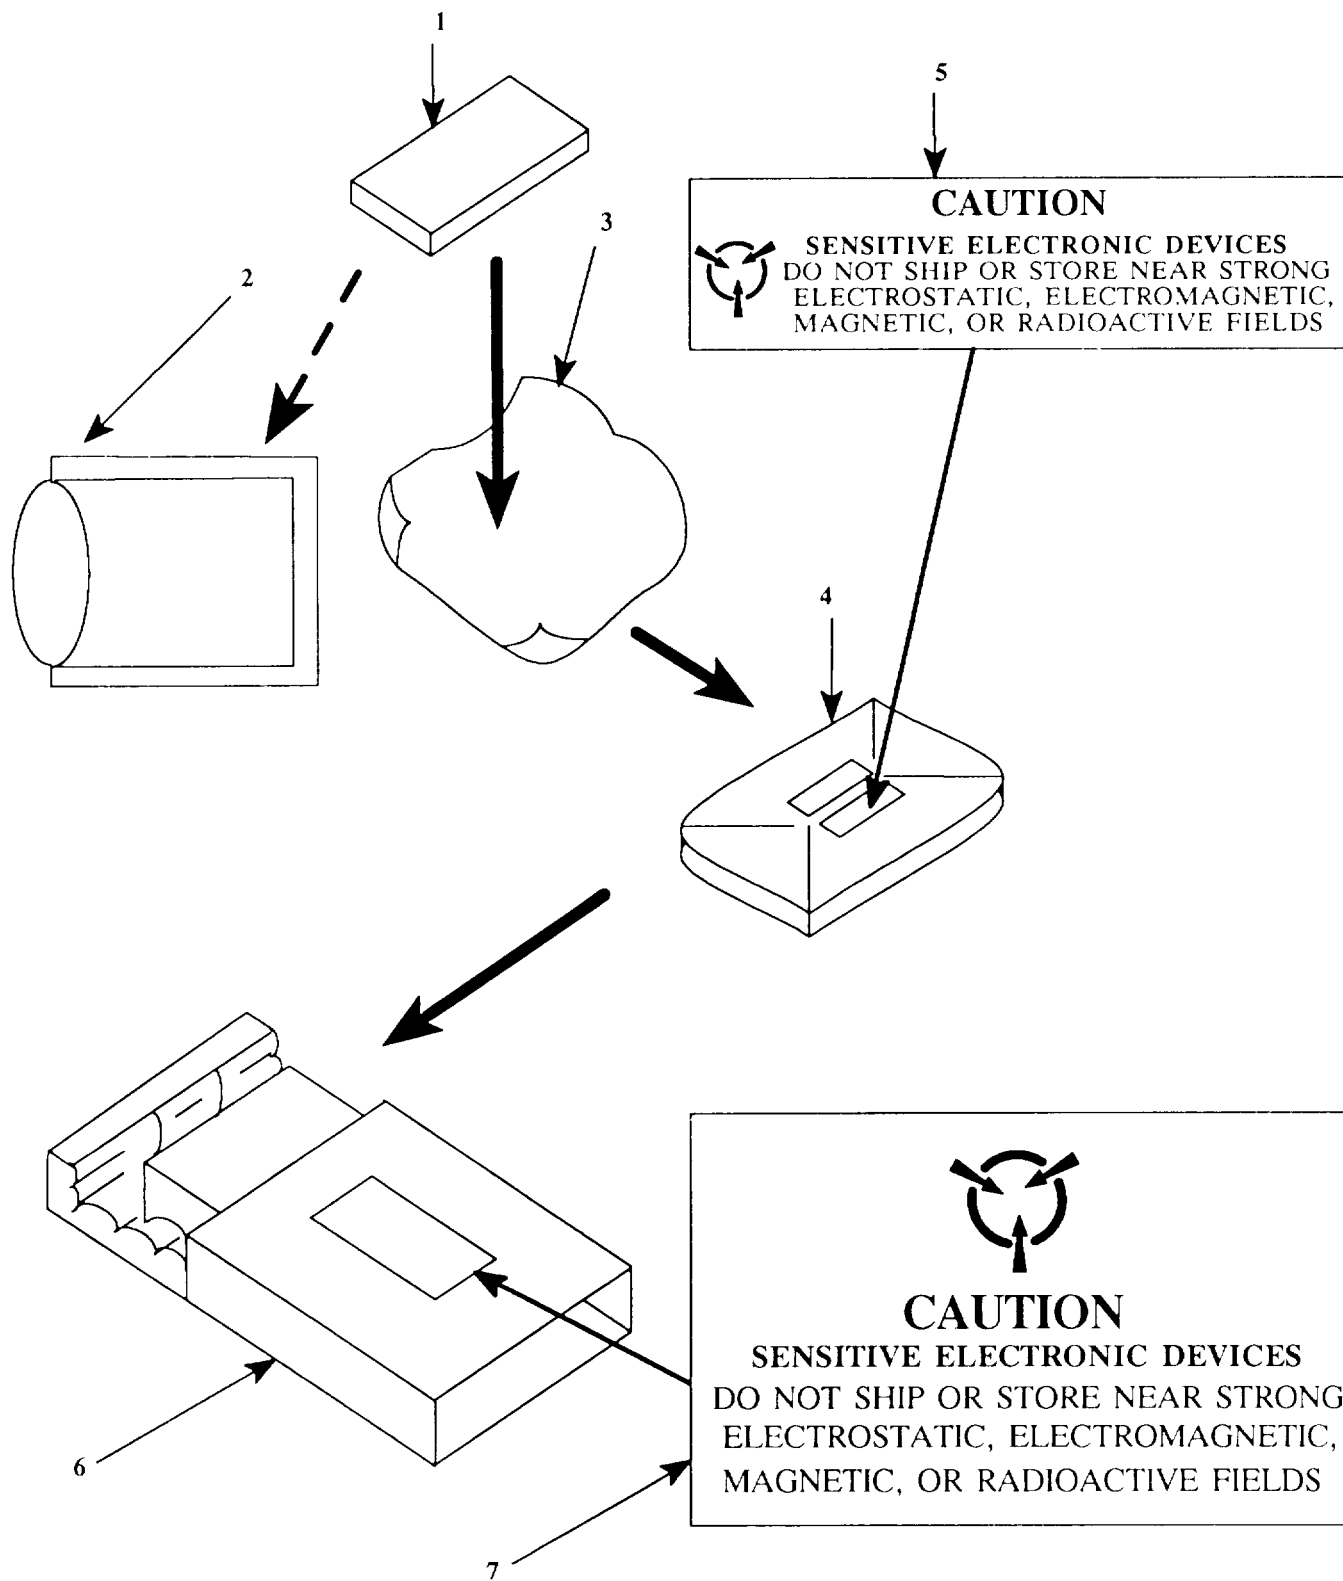

Figure 3-8. Packing Static Sensitive Modules
a. Module (1)	a. Place inside antistatic bag (2) or inside antistatic wrapping material (3). See figure 3-8.
b. Antistatic package (4)	b. Seal with adhesive tape. Attach "sensitive electronic device" unit pack label (5),
c. Antistatic package (4)	c. Place inside approved shipping container (6).
d. Shipping container (6)	d. Attach "sensitive electronic device" intermediate pack label (7).